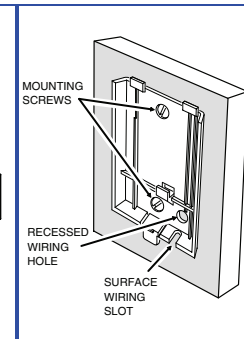

Figure 4. Transmitter Back Cover Mounting
STEP 1: Select a location for the transmitter and drive screws through the two countersunk holes of the back cover to mount the cover (see Figure 4).
STEP 2: For recessed switches with hidden wiring, fish the sensor wires through the wire access hole on the back cover. With surface wiring, route the wire leads through the wire slot on the back cover (see Figure 4).